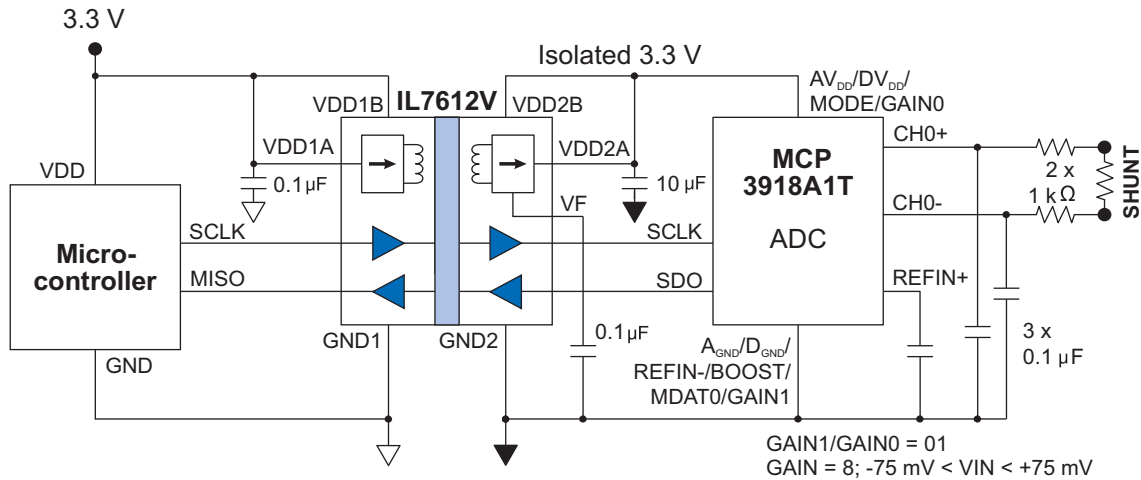

Figure 14. Isolated shunt-based current sensing.
- Added IL7612V / ADC application circuit (Figure 14).